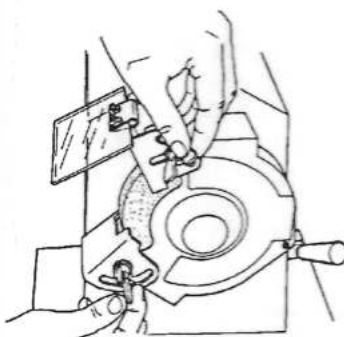

Fig. 30
2. Loosen both wing nuts (19). See Fig. 30.